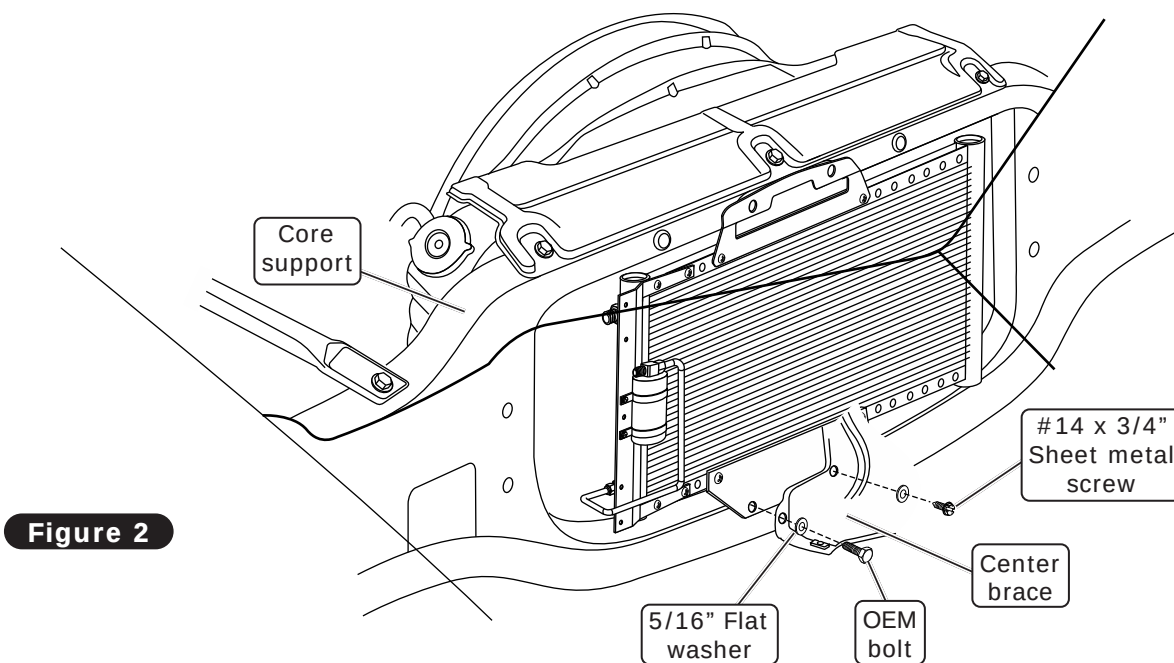

Figure 2
3. Secure the bottom passenger side of the condenser to the core support using a 5/16" flat washer and OEM bolt as shown in Figure 2, below.
4. Use the driver side mounting hole as a guide, and drill a 3/16" hole on core support. Secure the condenser to the core support using a 5/16" flat washer and a #14 x 3/4" sheet metal screw as shown in Figure 2, below.